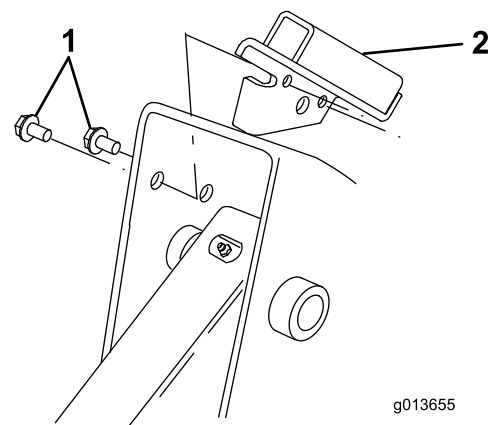

Figure 5
3. Align the tab on the shield bracket with the front edge of the frame with the bracket inside of the loader arm pocket (Figure 5).
Note: There is a right and left bracket. Ensure that you install the correct bracket on each side. The tab should be over the frame edge and the bracket should be inside the loader arm pocket with the 2 smaller holes in the bracket lined up with the holes you drilled in the frame (Figure 5).
4. Secure the bracket to the frame with 2 self-tapping screws as illustrated in Figure 5.